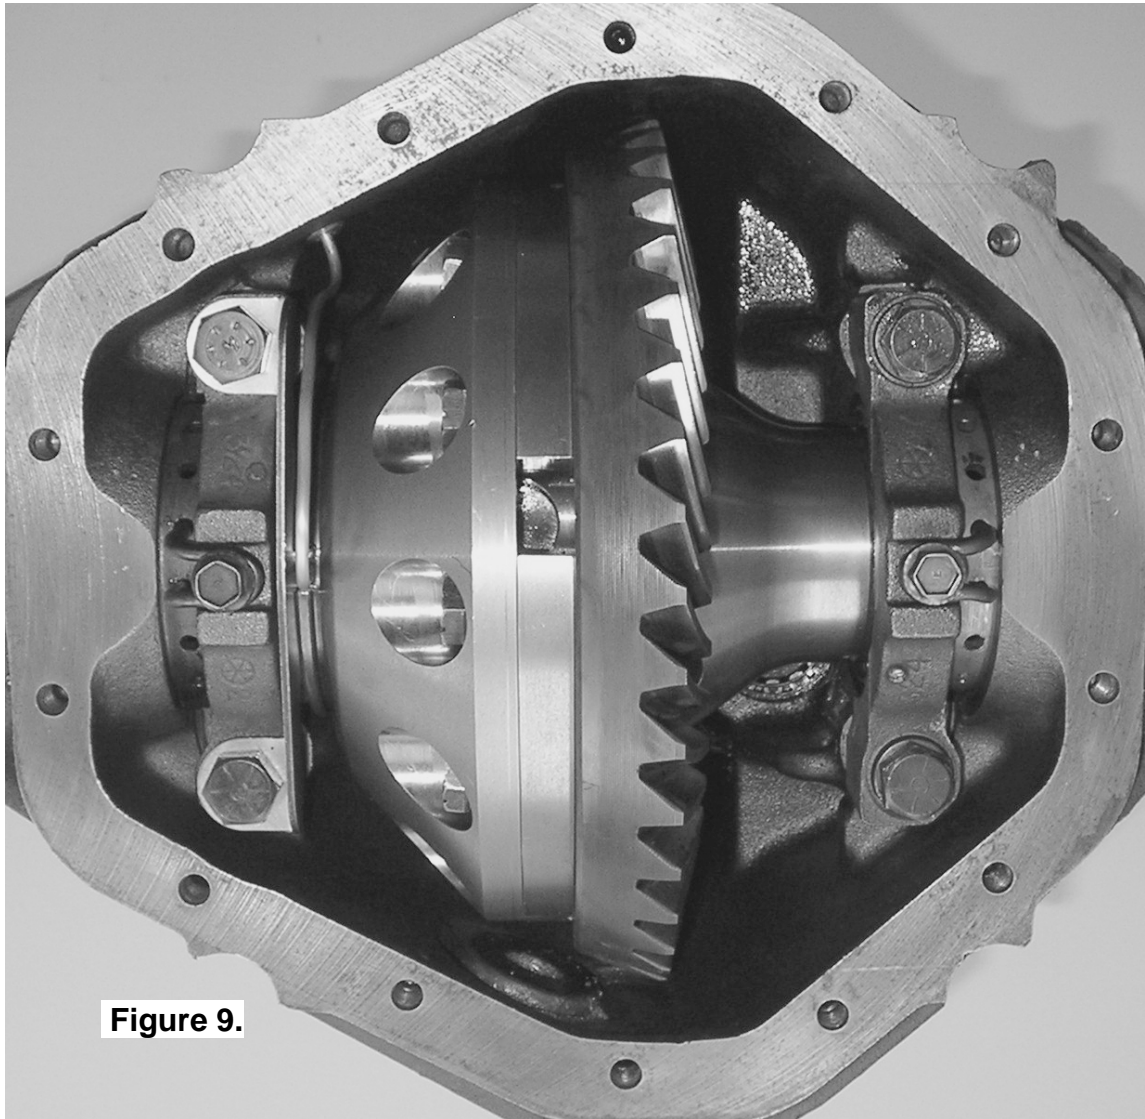

Figure 9.
- Without using sharp, jagged tools such as pliers (your hands are the best tool for this job), gently bend the seal housing tube so that it runs closely beside the seal housing bracket (without contacting it) and through the tapped bulkhead port as shown in Figure 9.